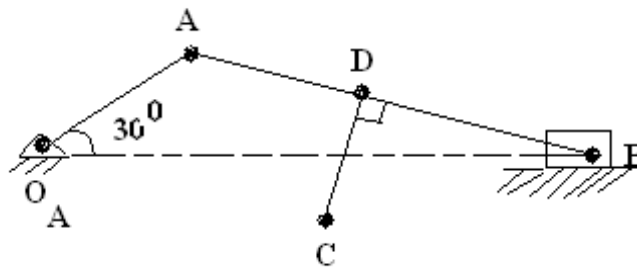

Figure 8:
3. Find the inflection circle for the motion of the coupler of the slider-crank linkage shown in Figure 8 below and determine the instantaneous radius of curvature of the path of the coupler point 'C'. Data is given below $O_A.A = 2$ cm , $AB = 2.5$ cm, $AD = DB$, $DC = 1$ cm & AB perpendicular to DC . [16]